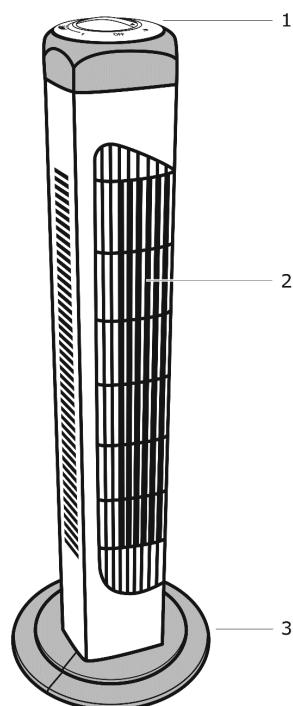

Fig. 1 Appliance description
- ✓ Check whether the delivery is complete (see Fig 1).